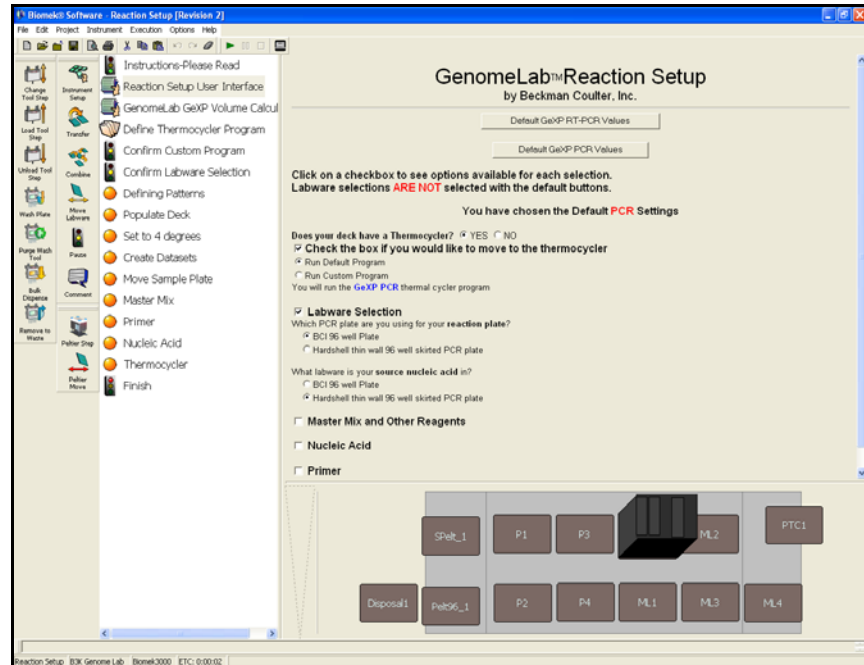

Figure 1-10. Reaction Setup User Interface step with Labware options displayed
12. Choose **Labware selection** to view the labware selection options for the reaction plate and nucleic acid source plate (Figure 1-10).